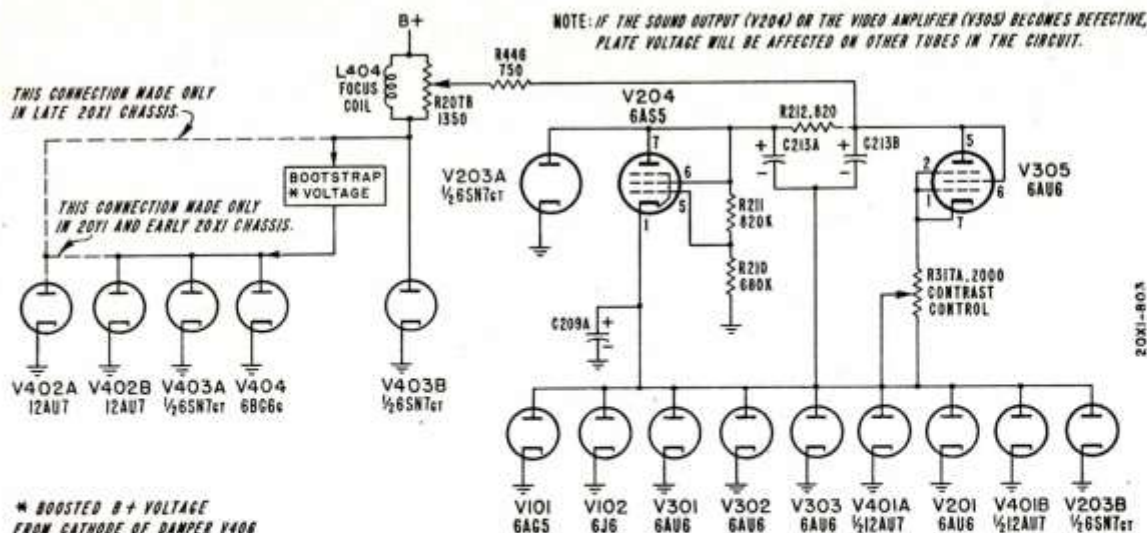

Figure 43. B+ Voltage Distribution Chart
3. B+ current for the tubes in the RF tuner, IF amplifiers, and sync tubes must pass through the parallel combination of the video amplifier (V305) and the sound output tube (V204). If V204 or V305 becomes defective, the B+ voltage to the RF tuner, IF amplifier, and sync tubes will be affected. See "Voltage Distribution" chart, Figure 43.